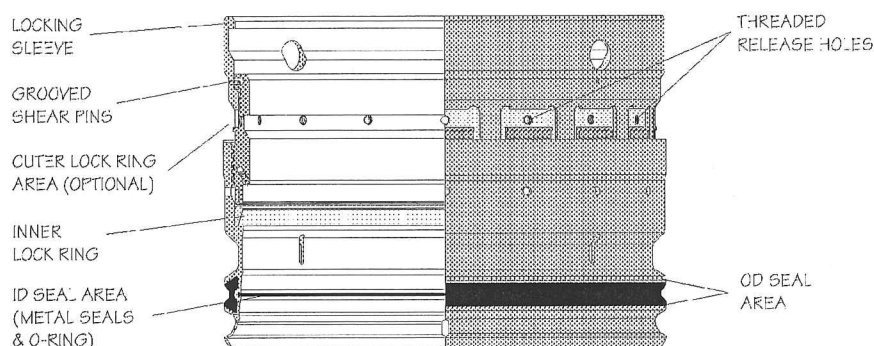

Figure 3. 18-3/4" Seal Assembly and its components
1. Remove the Seal Assembly from its container. Check the part number stamped on the Seal Assembly to ensure it is compatible with the Running Tool and the Casing Hanger. Refer to **Figure 3** for identification of Seal Assembly components.